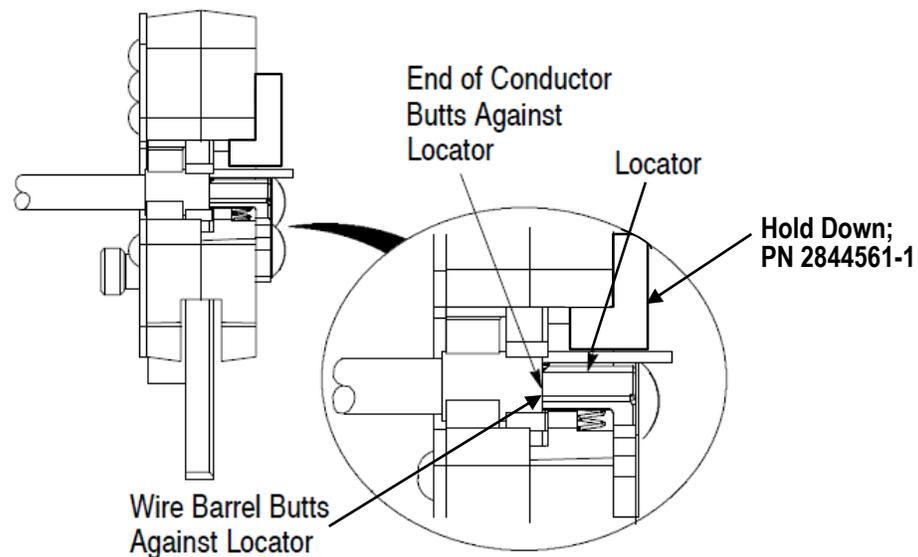

Figure 3
Refer to Figure 3 and the following steps for terminal crimping procedures.
2. Place the terminal into the crimping jaws as shown in Figure 3.
3. Insert the UNSTRIPPED wire into ONLY the insulation barrel (refer to Figure 3) portion of the terminal.